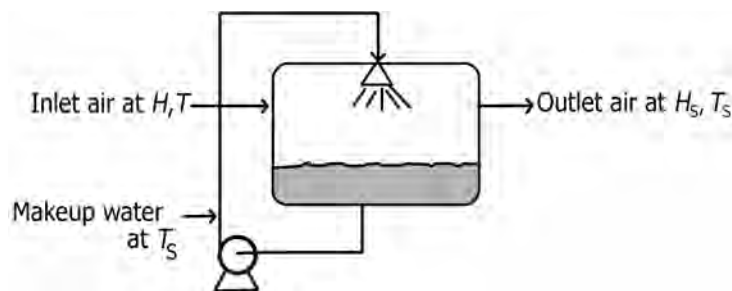

FIGURE 18.9 Adiabatic process.
- Figure 18.9 illustrates the principle involved in adiabatic saturation process.